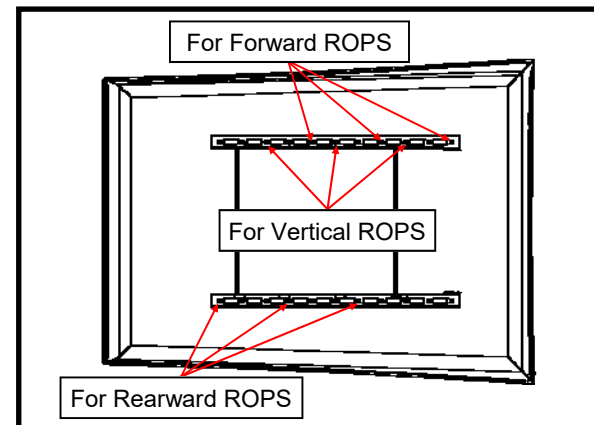

Fig. 4a (Hole Alignment)
4. See figures 4a and b. Latch the canopy frame into the striker plate. Position the canopy on top of the frame. The frame has multiple slots in it to allow the canopy to move front to back a total of 12". For reference: